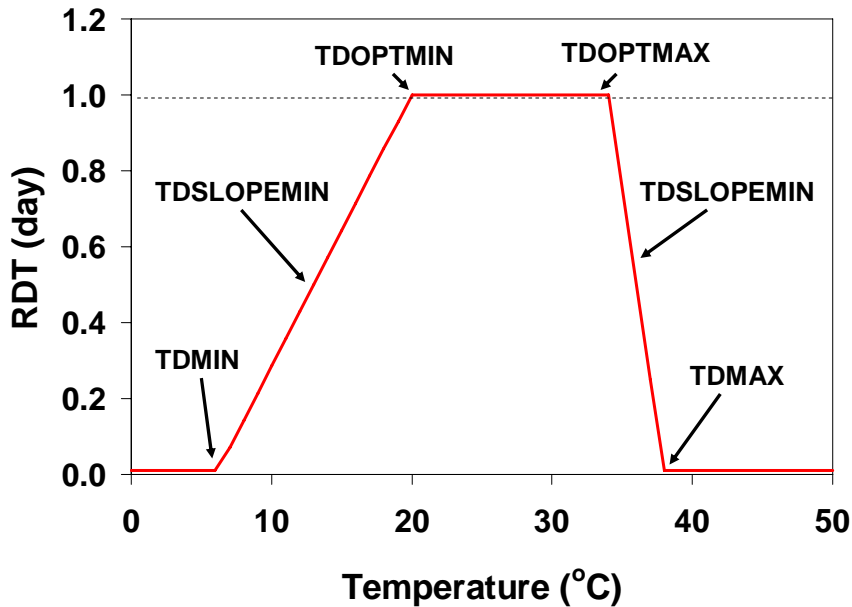

Fig. 2. Four critical temperatures used to define the response of relative development time to temperature.
Cumulative development time (DT) and relative daily time (RDT) which is the daily incremental change in DT are used to control sink-limited growth. Figure 2 depicts how four temperature points are used to define the relationship between DT and temperature. If temperatures are optimal (between TDOPTMIN and TDOPTMAX) RDT = 1 day. When temperatures fall below or rise above these optimum values, RDT <1.0 and growth potential will be less than optimal. When temperatures fall below minimum or rise above maximum values (TDMIN and TDMAX) then RDT approaches zero or no growth. The following discussion details how RDT is calculated.
The first two equations calculate slopes used to describe the RDT response to temperature (Fig. 2).